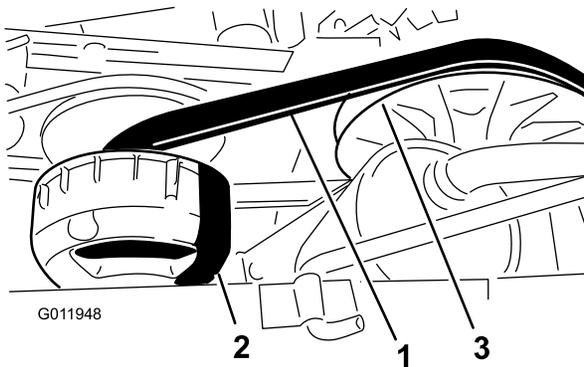

Figure 70
4. Rotate and inspect the belt (Figure 70) for signs of excessive wear or damage.
3. Rotate and route the belt over the secondary clutch (Figure 70).
4. Remove the belt from the primary clutch (Figure 70).
5. Align the new belt over the primary clutch (Figure 70).
6. Rotate and route the belt over the secondary clutch (Figure 70).